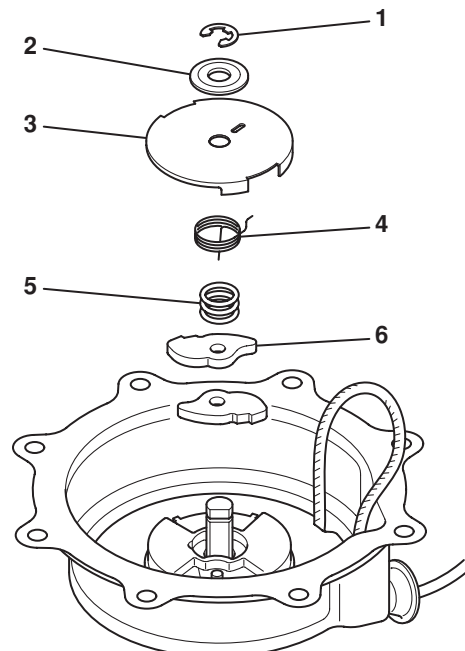

Fig. 11-2
- (3) When removing, take out the parts in the order of the numbering in Fig. 11-2.
- (4) When reassembling the parts, follow up in the reverse order to Fig. 11-2.